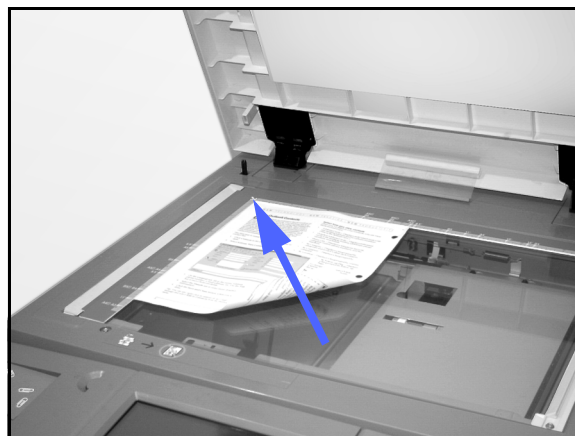

Figure 4: Placing a document on the Document Glass
- Raise the Duplex Automatic Document Feeder (DADF) or Document Glass Cover and place the document face down onto the Document Glass, as in Figure 4.